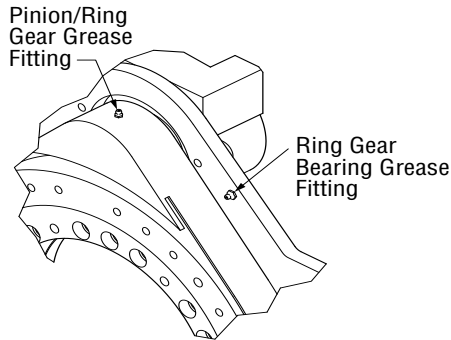

Figure 5-1, Grease Fitting Locations
4. To ensure proper greasing of gears and bearings, slowly rotate the ring gear 360° while greasing, this will allow grease to completely coat the gear. Gears must be fully greased. (Figure 5-1)